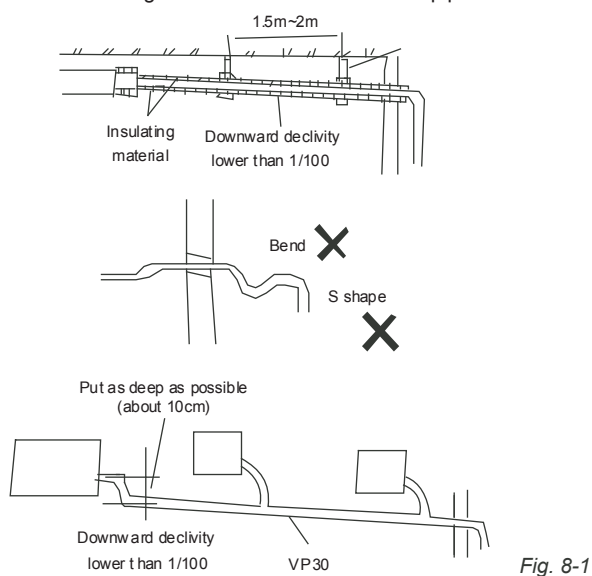

Fig. 8-1
- Refer to the Fig.8-1 for the installation of the pipes.